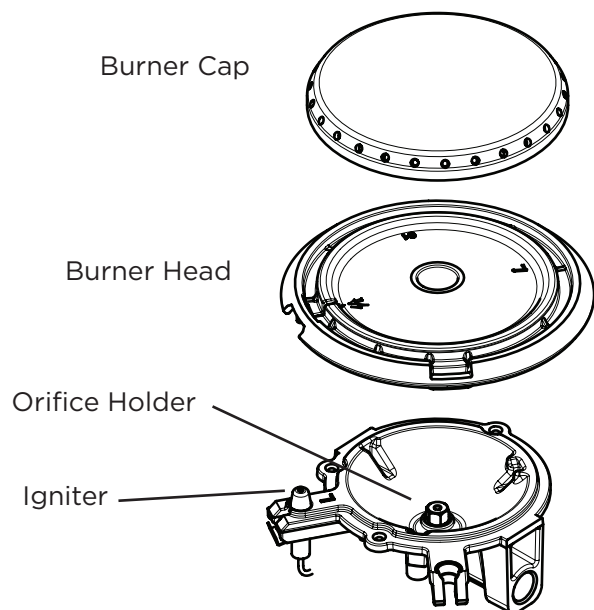

Figure 12: Removable Single burner components
1. Remove the burner cap and burner head (see Figure 12). Clean the cap and head with hot soapy water and dry thoroughly.